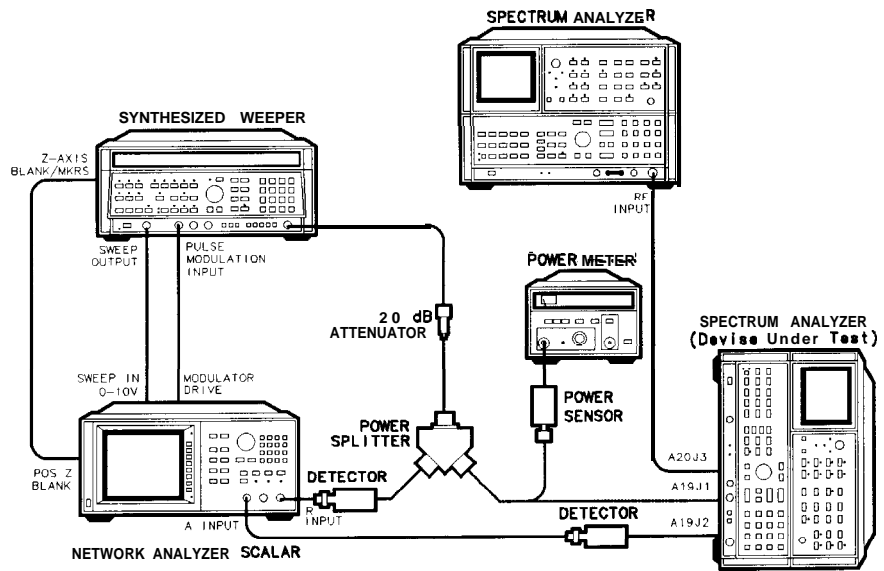
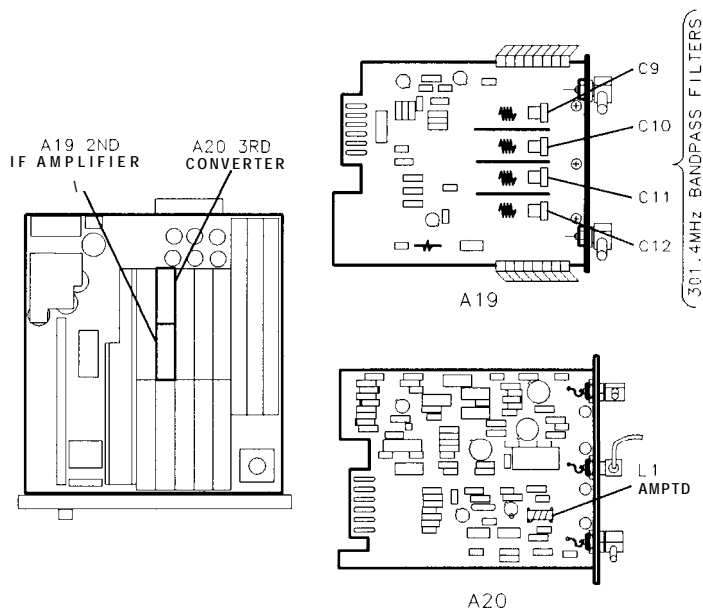
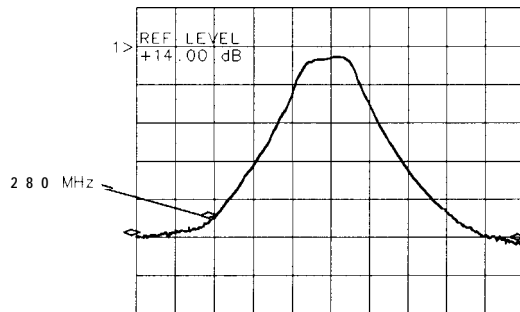

Figure 3-63. Second IF Amplifier Adjustments Setup
Figure 3-64.
Figure 3-66. Minimum Image Response at 258.4 MHz
1. Position instrument on right side as shown in Figure 3-63, with bottom cover removed.
3. Connect 20 dB Attenuator and power splitter to RF OUTPUT of synthesized sweeper. Connect one arm of power splitter to R input of scalar network analyzer through Detector. See Figure 3-63.
7. Disconnect Power Meter and connect power splitter output to A19J1, using adapter and a BNC to SMB test cable. Refer to Figure 3-64.
9. Connect synthesized sweeper SWEEP OUTPUT (rear panel), Z-AXIS BLANK/MKRS (rear panel), and PULSE MODULATION INPUT to proper rear-panel connectors on scalar network Analyzer, as shown in Figure 3-63.
12. On synthesized sweeper, press **PULSE** (ON) **MKR SWEEP**, and **ΔF**. Set **SWEEP TIME** to 500 ms.
13. Adjust A19 301.4 MHz Bandpass Filter, A19C9 through C12, for the best bandpass filter response with a gain of $> + 14$ dBm but $< + 17$ dBm. See Figure 3-64 for the location of the bandpass adjustments.
22. Adjust A19C12 for minimum amplitude response at 258.4 MHz. Refer to Figure 3-64 for the location of the bandpass adjustments. Refer to Figure 3-66 for the typical response when the bandpass filter is properly adjusted.